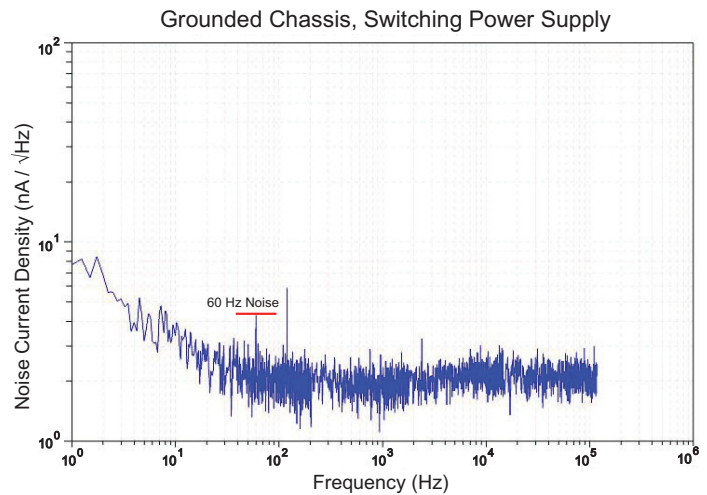

**Figure 13. Noise Plot with Floating Chassis and Linear Power Supplies**
**Figure 13** through **Figure 15** illustrate the benefits of using high-quality switching power supplies and grounding the chassis.